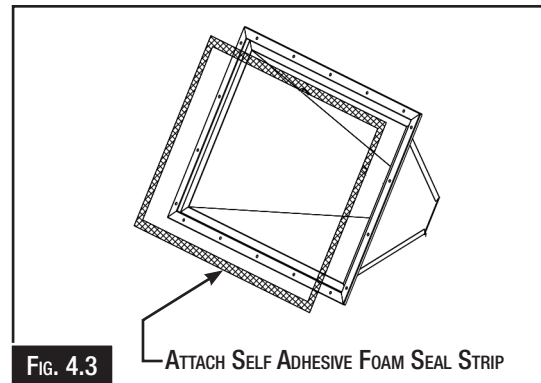

FIG. 4.3
2. Attach the self-adhesive foam seal strip to the top of the hopper. (Fig. 4.3)